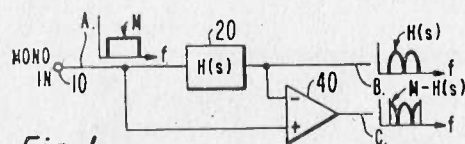

Fig. 1.
The RCA system, following work begun by Lauridsen of Danish Radio in 1956, creates a sensation of depth, presence and ambience but does not attempt to recreate directionality. Figure 1 shows the basic circuit. Mono sound signal M of full frequency range is split, and one half fed direct to the positive input of differential amplifier 40. The other half of the input signal is fed to circuit 20 with an amplitude response which varies with frequency. So the output of circuit 20 is sharply attenuated at specific frequencies and untouched at other frequencies. This "notched" output signal H(s) is now split. One half of the split signal constitutes a first output from the system (B) and the other half of the split signal is fed to the negative input of the differential amplifier 40. The output of amplifier 40, produced by subtracting notched signal H(s) from the mono signal, forms the second system output (C). This output is a complement of output B because it contains all the frequency components of the original mono signal which the output B lacks. Thus the entire sound spectrum of the original mono input is preserved in the two channels. But when they are separately reproduced through a stereo pair of loudspeakers the
Fig 1 shows the full circuit diagram, and it operates as follows: Assume the vehicle's doors are closed, that is S1 and S2 are open. Capacitor C1 is charged to the supply voltage via LP1 and D3. The transistor TR2 is turned full on via LP1, D2, R3 and R4. TR2 conducting keeps the gate of TR1 at zero volts, preventing TR1 from passing current. When a door is opened S1 or S2 closes so lighting the lamp LP1, but because point A is now at zero volts, TR2 is turned off, and D3 reversed biased because of the potential stored on C1. This potential is the gate voltage for TR1, which allows it to conduct when both S1 and S2 are opened by closing the doors. Because TR1 is a voltage controlled